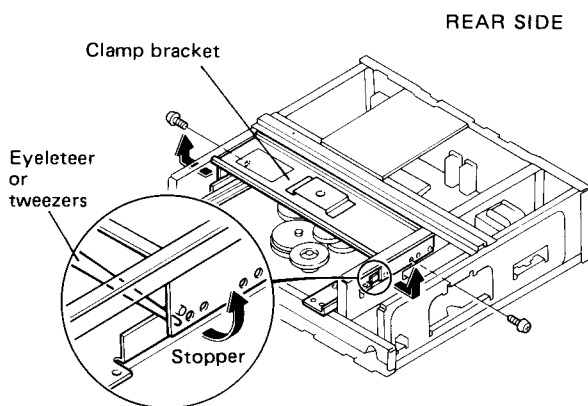

Fig. 13
3. Remove the fixing screws of the clamp bracket at both of its ends. (Fig. 13)
4. Force open the clamp bracket by a pointed instrument such as eyelet or tweezers inserted between the clamp bracket (right side) and the mechanism chassis. Then, release the clamp bracket from a stopper (protrusion) of the mechanism chassis. (Fig. 13)
5. Force open the clamp bracket at its left side by hand, then release the clamp bracket from a stopper of the mechanism chassis, and detach it from the unit. (Fig. 13)